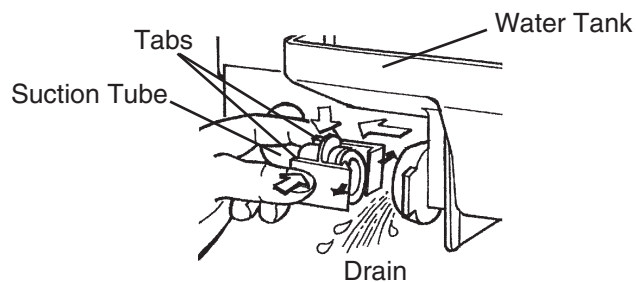

Fig. 24
- 6) Inside the storage bin, disconnect the suction tube by squeezing the tabs and pulling the tube clear. See Fig. 24. Allow the water tank to drain.